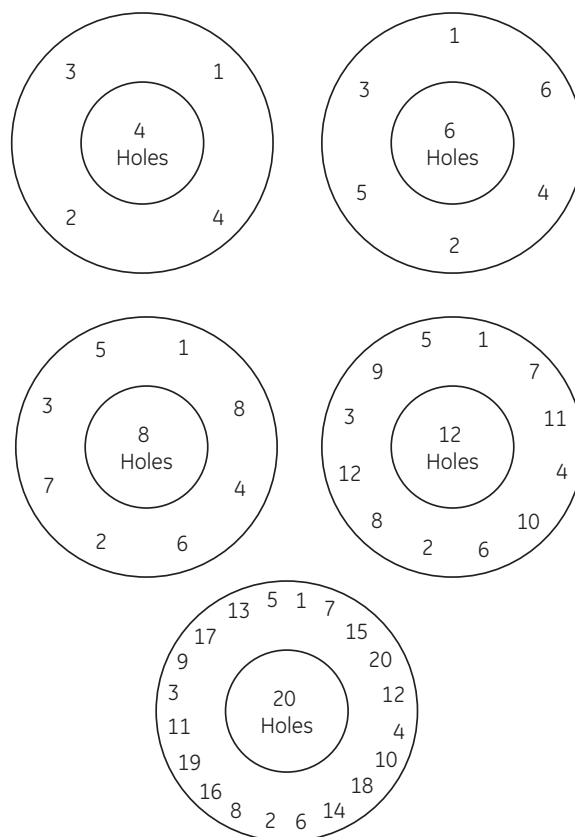

Figure 50: Bolt Tightening Patterns
18. Torque to the values found in Table 12 using the torque patterns in Figure 50 and Table 13.